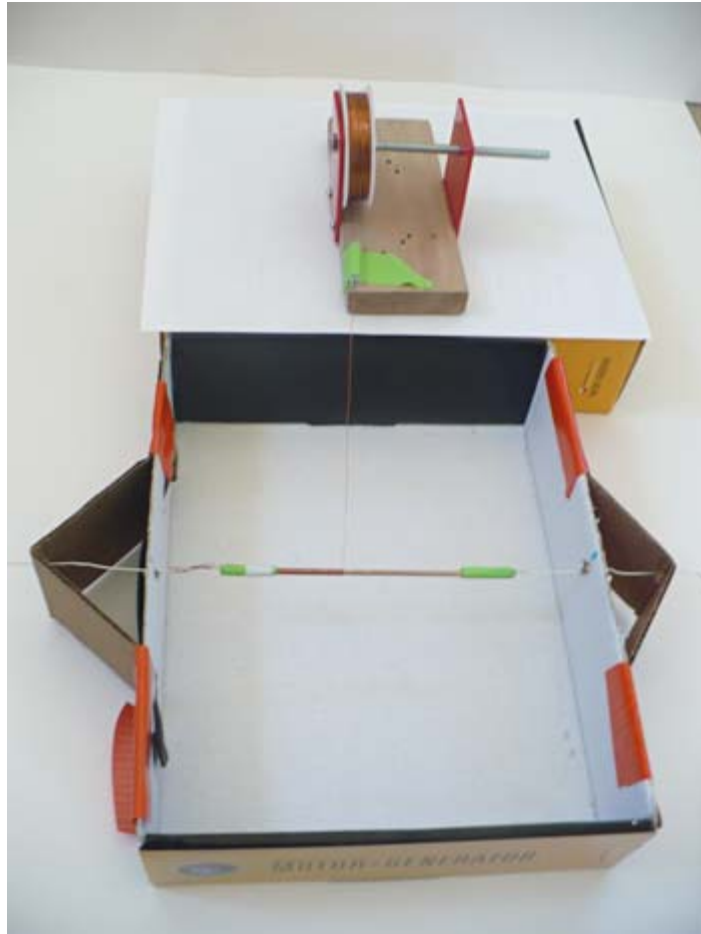

Figure 3. A coil winder like the one depicted here helps wind an iron core neatly with magnet wire.
It is very difficult to wind the iron core neatly without the help of a tool. You can transform the box in which your kit came into a coil winder with a hand crank. This will not only help you coil the wire neatly, but it will also drastically increase your efficiency. Let Figure 3 be your guide throughout the instructions.
7. Use masking tape to attach the flaps of the V shapes to the sides of the box so the holes all line up, with the bottom points of the V shapes pointing out. Masking tape (or packaging tape) will work well here. Use Figure 3 as a guide. The V shapes are there to help keep the rotating axle stable.
11. Set up your wire dispenser so the spool can easily dispense wire to the core. Figure 3 shows a possible setup.